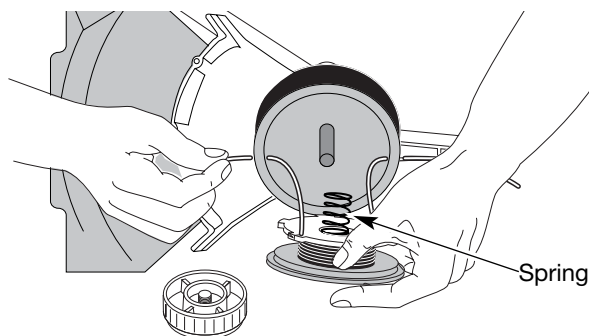

Fig. 39
13. Insert the ends of the line through the eyelets in the outer spool and place inner reel with spring inside the outer spool (Fig. 39). Push the inner reel and outer spool together. While holding the inner reel and outer spool, grasp the ends and pull firmly to release the line from the holding slots in the reel.
5. Insert the ends of the line through the eyelets in the outer spool (Fig. 39).